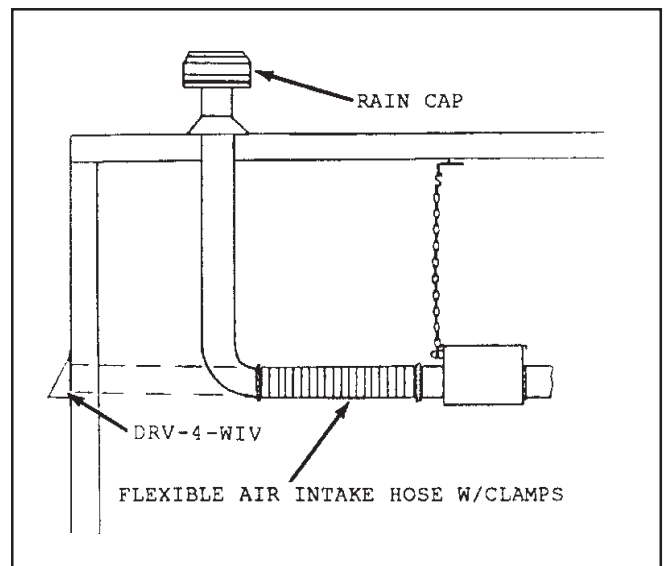

Figure 2.20
- A standard rain cap is recommended for an outside air inlet through the roof (see Figure 2.20).